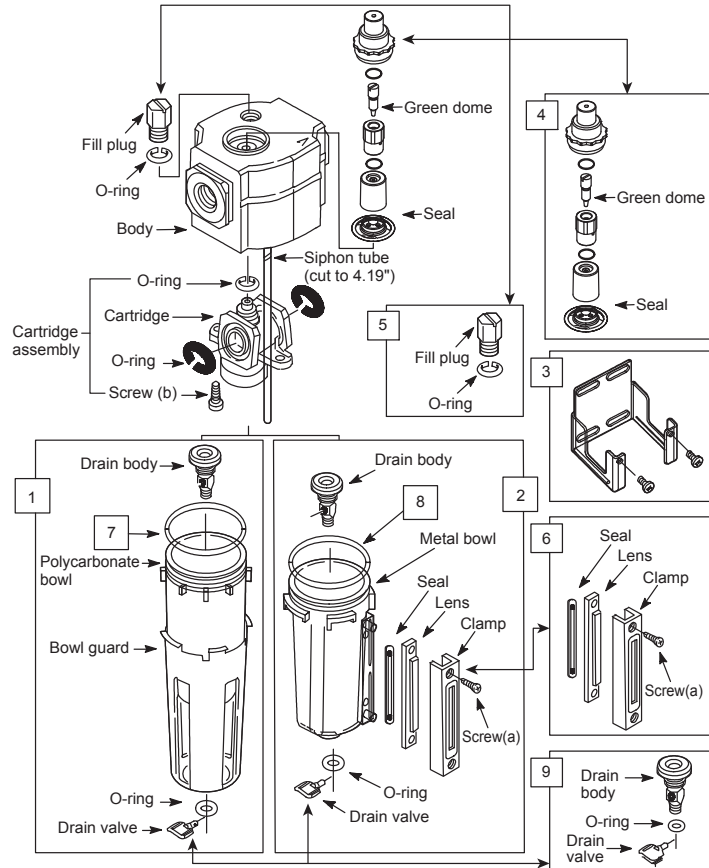

figure 2
## OPERATING INSTRUCTIONS (See Figure 2)
- Disassembly (See Figure 2)**
- Disassemble in general accordance with the parts illustrated in Figure 2. Do not remove the drain unless replacement is necessary. Remove and replace only if drain malfunctions. Do not remove the siphon tube. Remove and replace cartridge assembly only if lubricator malfunctions.
- Cleaning(See Figure 2)**
- Assembly (See Figure 2)**
- Assemble lubricator as shown on Figure 2.